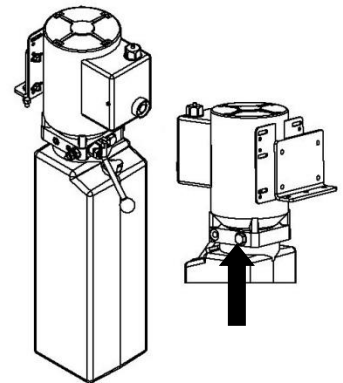

FIGURE 20 : SAFETY SEAL
1. SAFETY SEAL ON PRESSURE REGULATOR CAP. SEE **FIGURE 20**.